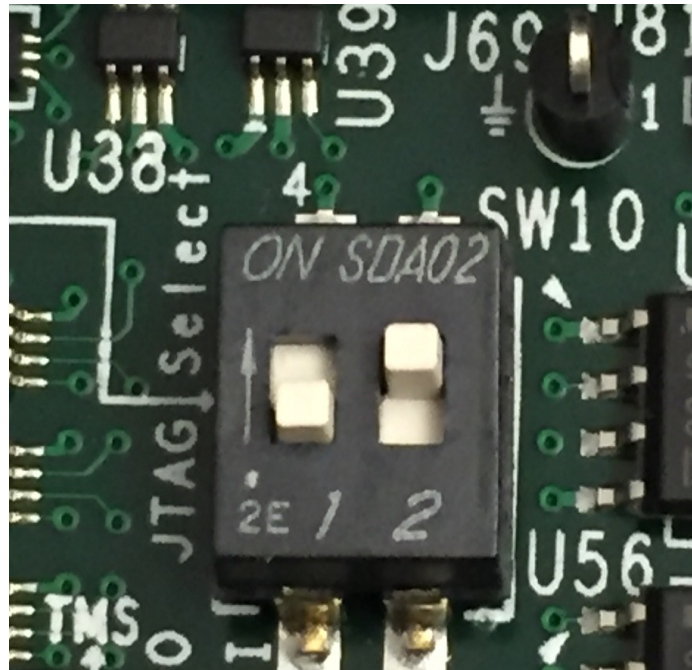

Figure 5-8: SW10 on a ZC702 Set to use Digilent USB JTAG
2. Connect a USB Micro cable between the Windows host machine and the target board with the following SW10 switch settings, as shown in Figure 5-8.